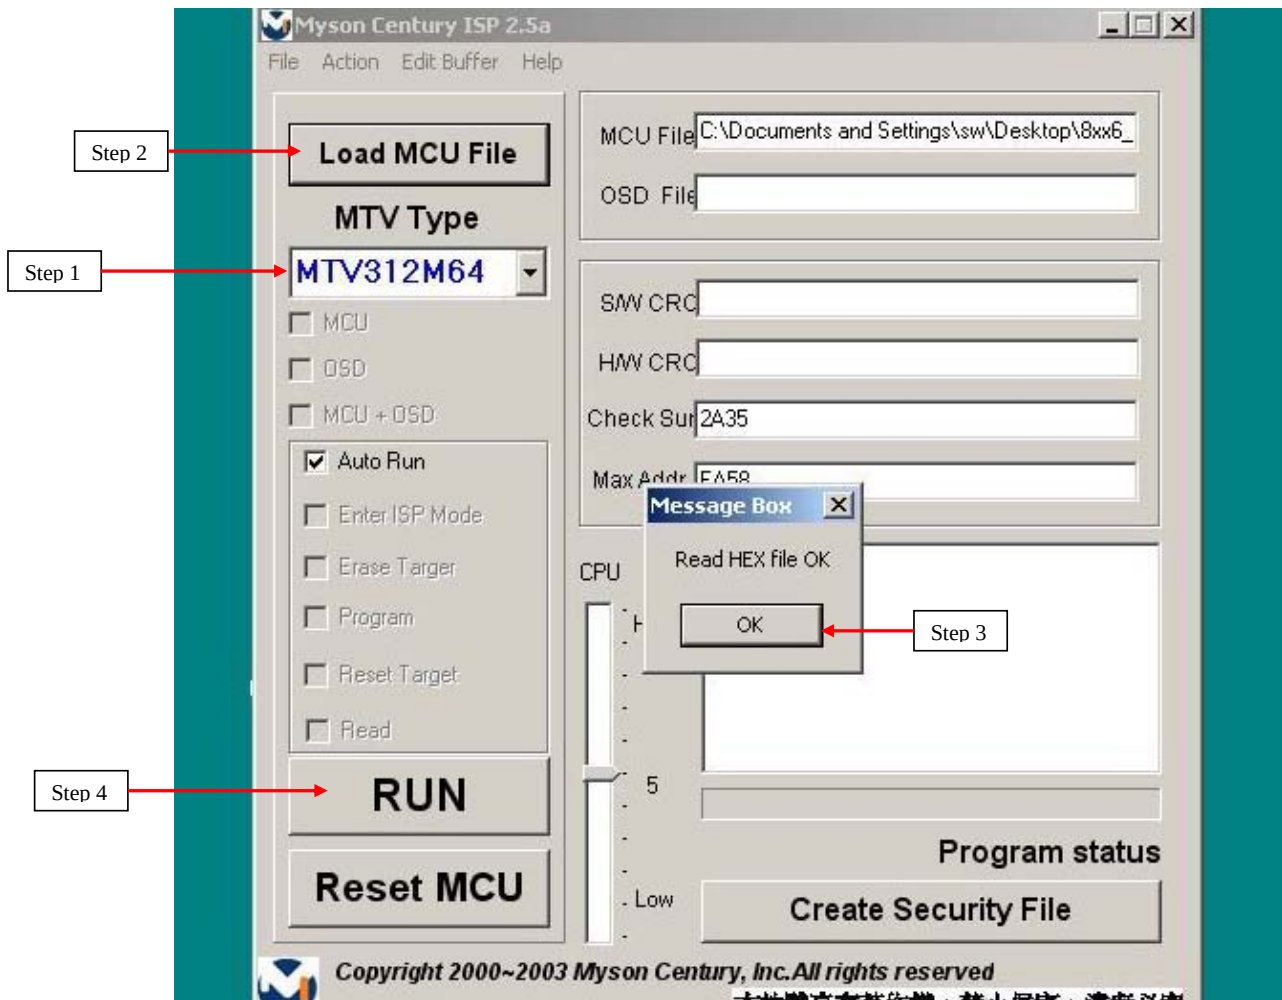

Fig. 3.1
1. Select MTV type first , load the binary or intel hex file that you want to program into the MCU , and select “ AUTO” item , then press “ RUN “ button , see fig3.1